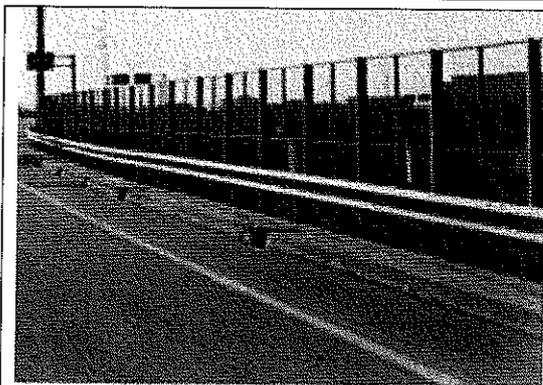

Fig.7
- Do you use fences on bridge roadside like Fig.7?  yes  no